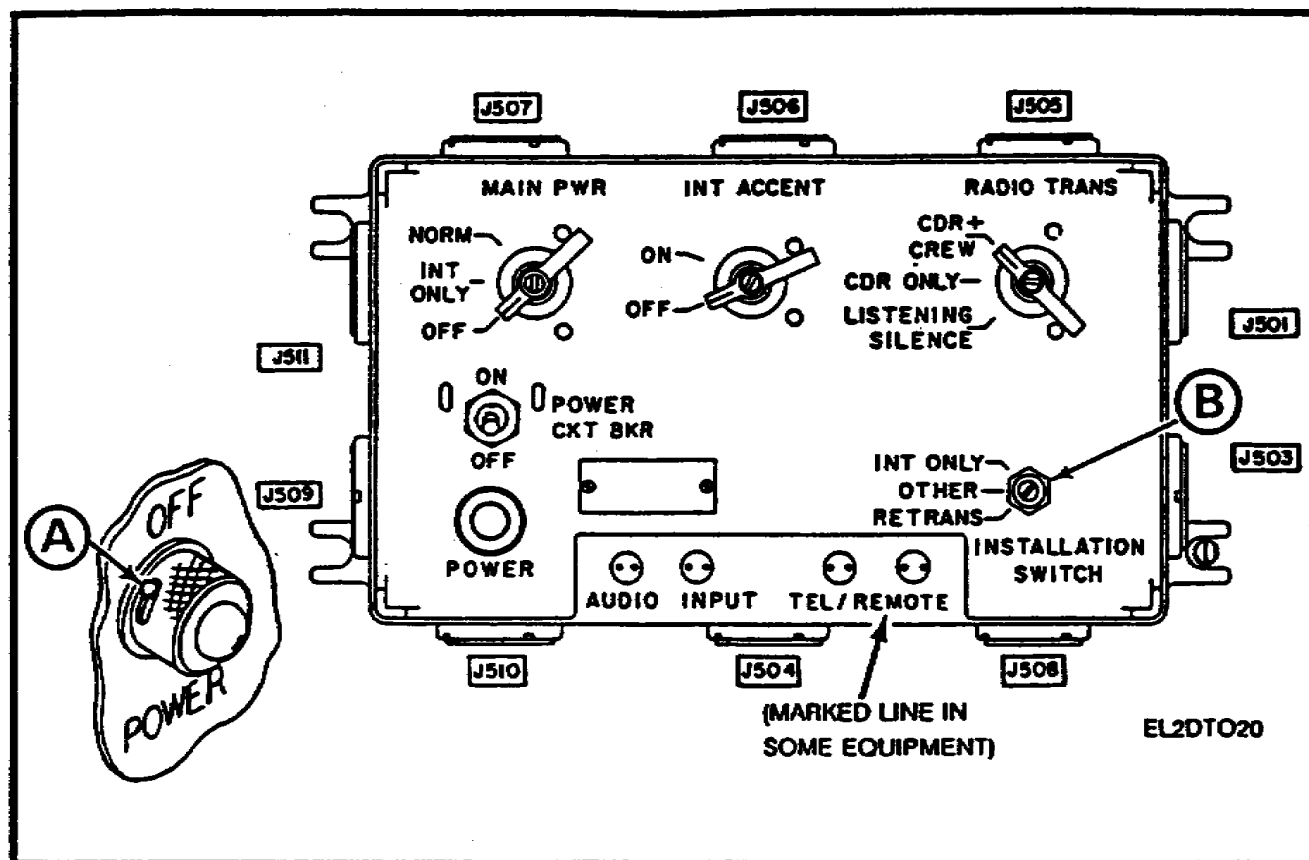

Figure 18. AM-1780.
(3) Preset controls. Presetting the intercom component controls is critical and must be performed accurately to obtain a valid evaluation.
(a) AM-1780. See Figure 18. Open the POWER lamp lens cover (A) (turn counterclockwise [CCW] to stop), and turn the INSTALLATION SWITCH (B) to INT ONLY.